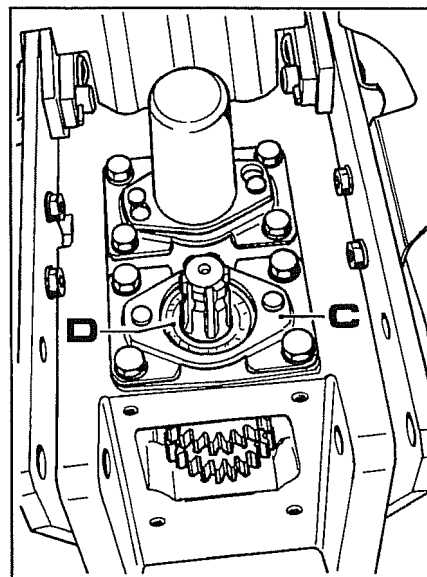

Fig. 2
- When reseating the side covers **C** Fig.2 apply silicone as a gasket to prevent harmful infiltration of dust and dirt.
4. Remove cover **C** Fig. 2, then oil seal **D** and the snap ring underneath.